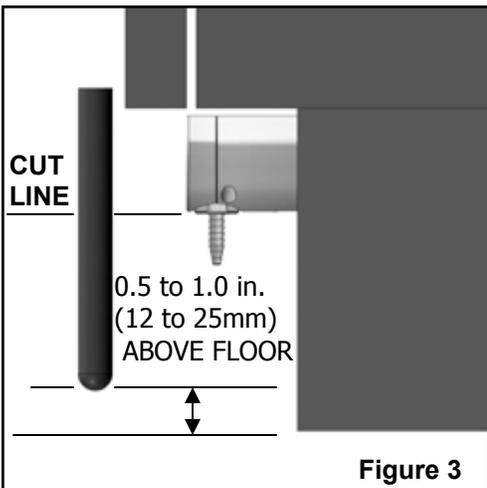

Figure 3
**STEP #5** - As in figure 3 place a mark on the probe so its cut length will position its rounded end approximately 1/2 to 1" above the finished floor (NOTE: height of the probe above the finished floor is a personal preference - 1" clearance is recommended for situations where users are in shoes and to facilitate cleaning, whereas, the lower 1/2" clearance is recommended for situations where users are in bare or stocking feet).